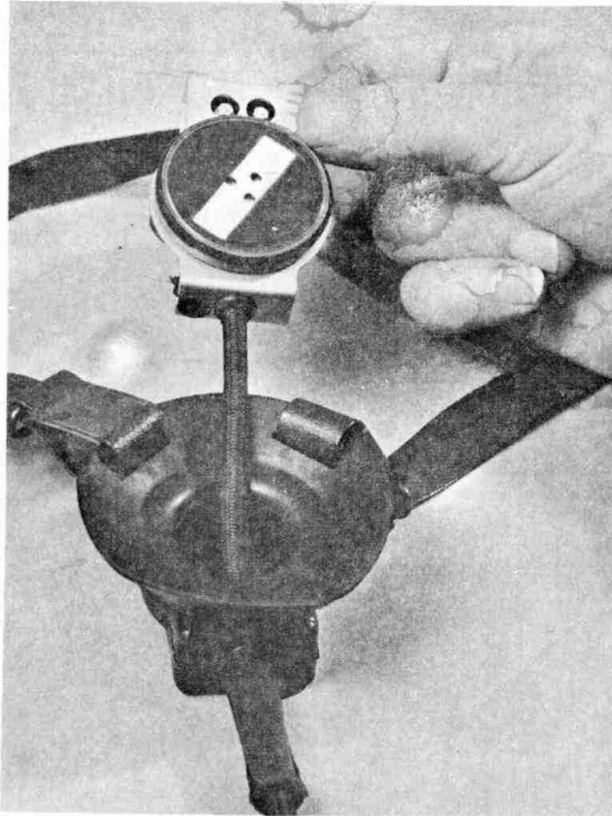

Fig 6 - Removing the moulding (4)
- d. The moulding should now be removed as in Fig 6.